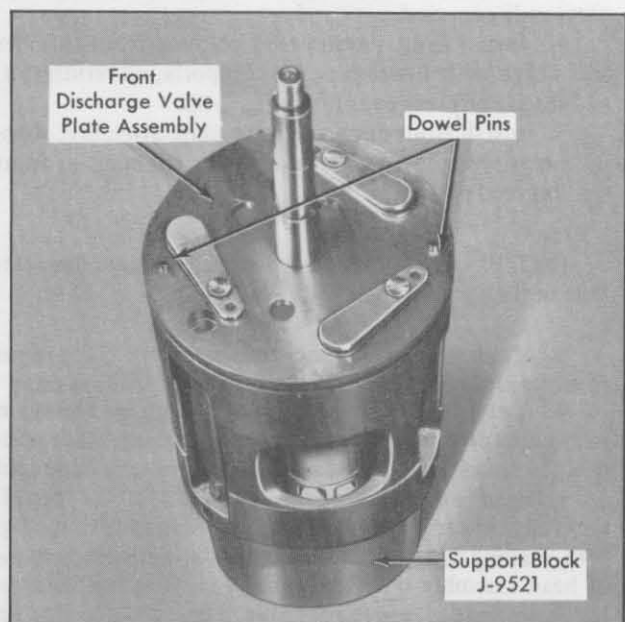

Fig. 1-93 Installing Front Discharge Valve Plate
5. Install front discharge valve plate assembly, aligning holes with dowel pins and proper openings in front suction reed plate, Fig. 1-93.